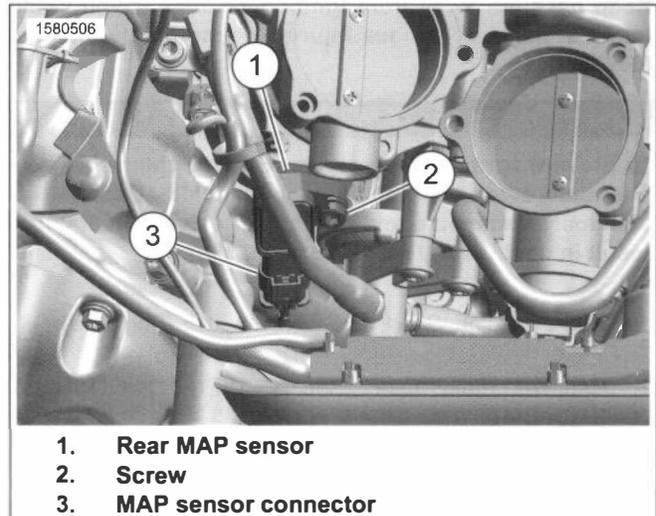

Figure 6-25. Rear MAP Sensor
1. See Figure 6-25. Disconnect MAP sensor connector (3).
- a. Remove screw (2).
- b. Remove MAP sensor (1).
1. See Figure 6-25. Install MAP sensor.
- a. Install MAP sensor (1).
- b. Install screw (2). Tighten.